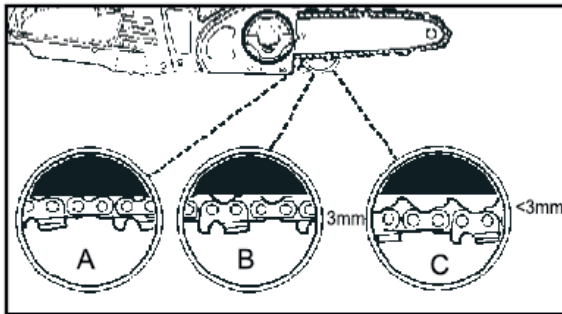

Fig. 4
**!** **CAUTION:** If a chain is TOO LOOSE or TOO TIGHT, the bar chain and saw bearings will wear more rapidly. Study Fig. 4 for information concerning correct cold tension (A), correct warm tension (B), and as a guide for when saw chain needs adjustment (C).
**!** **CAUTION:** If the chain is too loose, more than 3mm after applying down force with finger, as shown in Fig. 4.